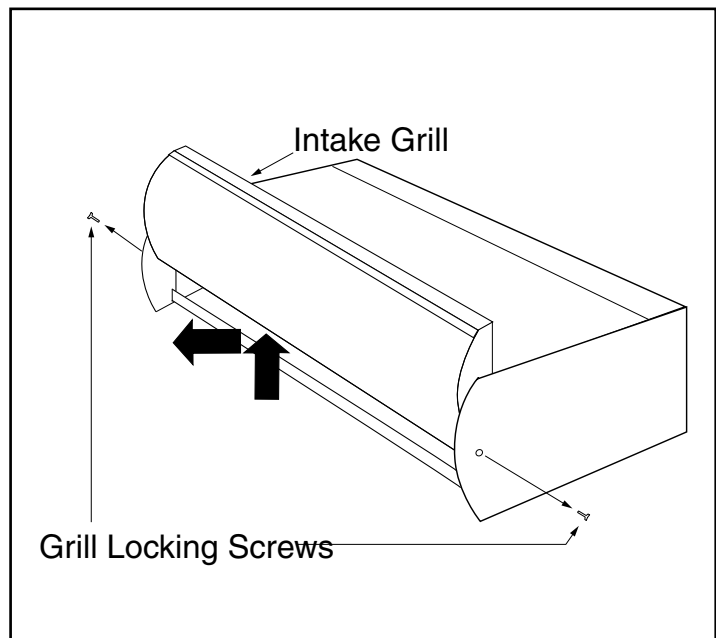

Figure 10
- Remove the intake grill by removing the locking screw on each end of the unit. Lift the intake grill up and then towards you. **See Figure 10.**